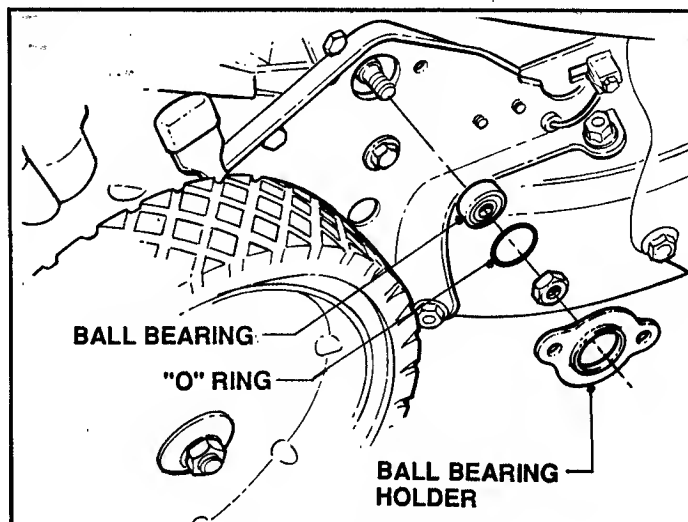

FIGURE 2.18
- (e) Replace bearing, insuring that O-Ring is over outside of bearing. See Figure 2.18.